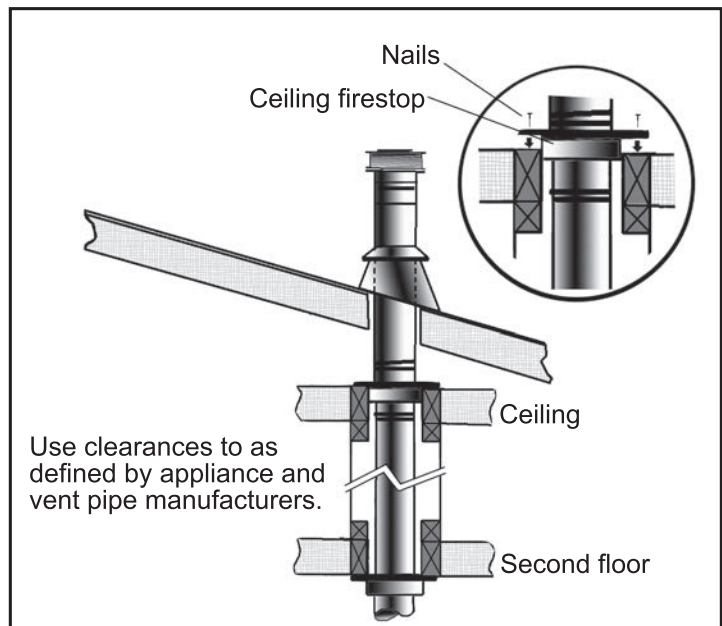
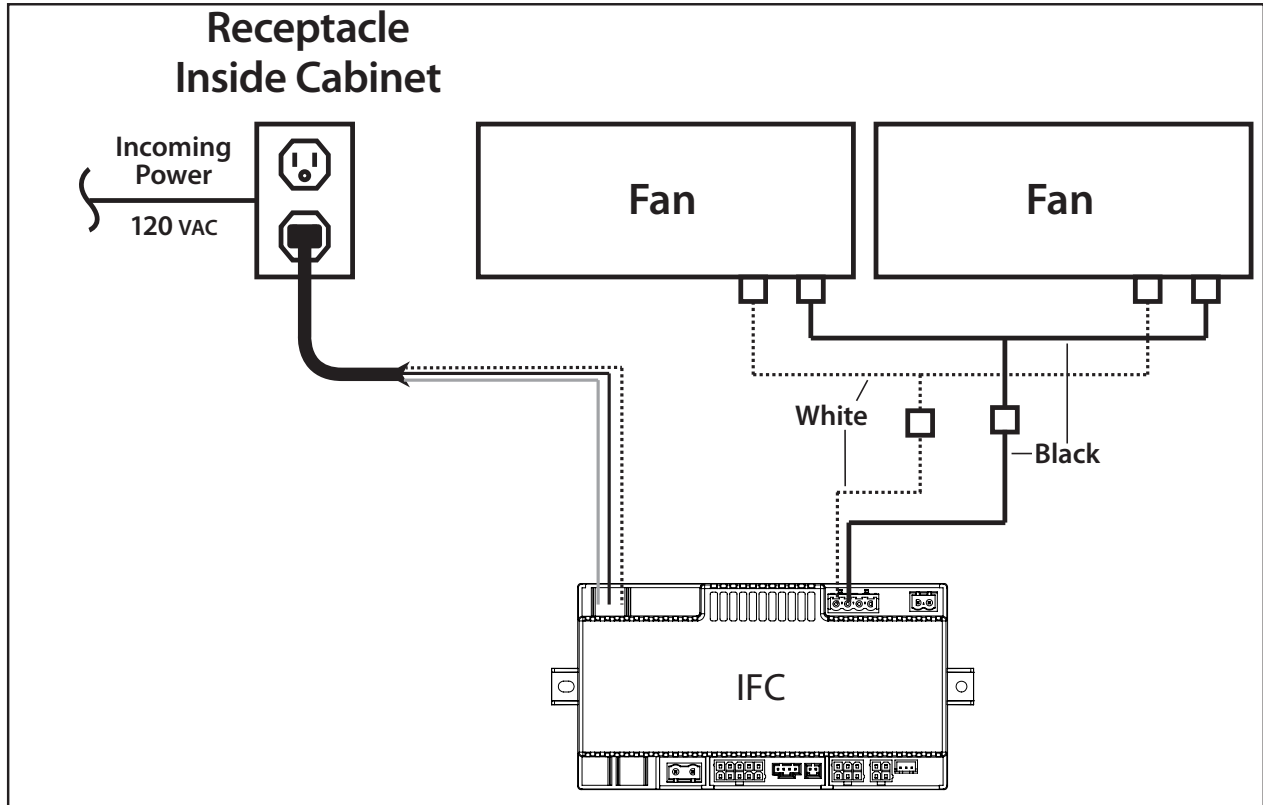

**Figure 51: Use of Wall Straps.**
Figure 56: Fan Kit Wiring Diagram
- (1) If an offset is necessary in the attic to avoid obstructions, it is important to support the vent pipe every **3' (914 mm)**, to avoid excessive stress on the elbows, and possible separation. Wall straps are available for this purpose (see Figure 51).
- (2) When ever possible, use 45° degree elbows instead of 90° degree elbows. The 45° degree elbow offers less restriction to the flow of flue gases and intake air.
- (3) For multi story installations; a ceiling firestop is required at the second floor, and any subsequent floors (see Figure 56). The opening should be framed to **10" (254 mm) x 10" (254 mm)** inside dimensions, in the same manner as shown in Figure 44.